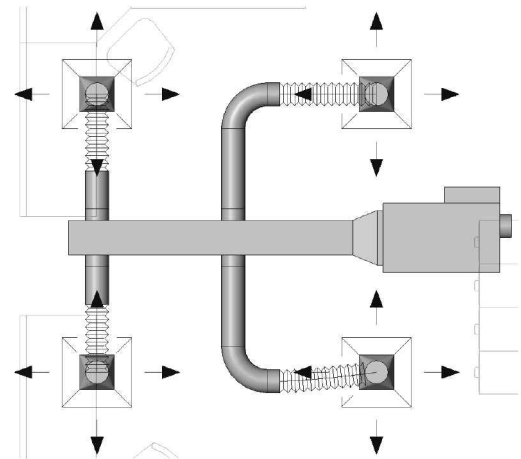

FIGURE 13-4.13 Modeling flex duct
47. **Repeat** the previous steps to add 8" *Flex Duct* to the other three diffusers (Figure 13-4.13).